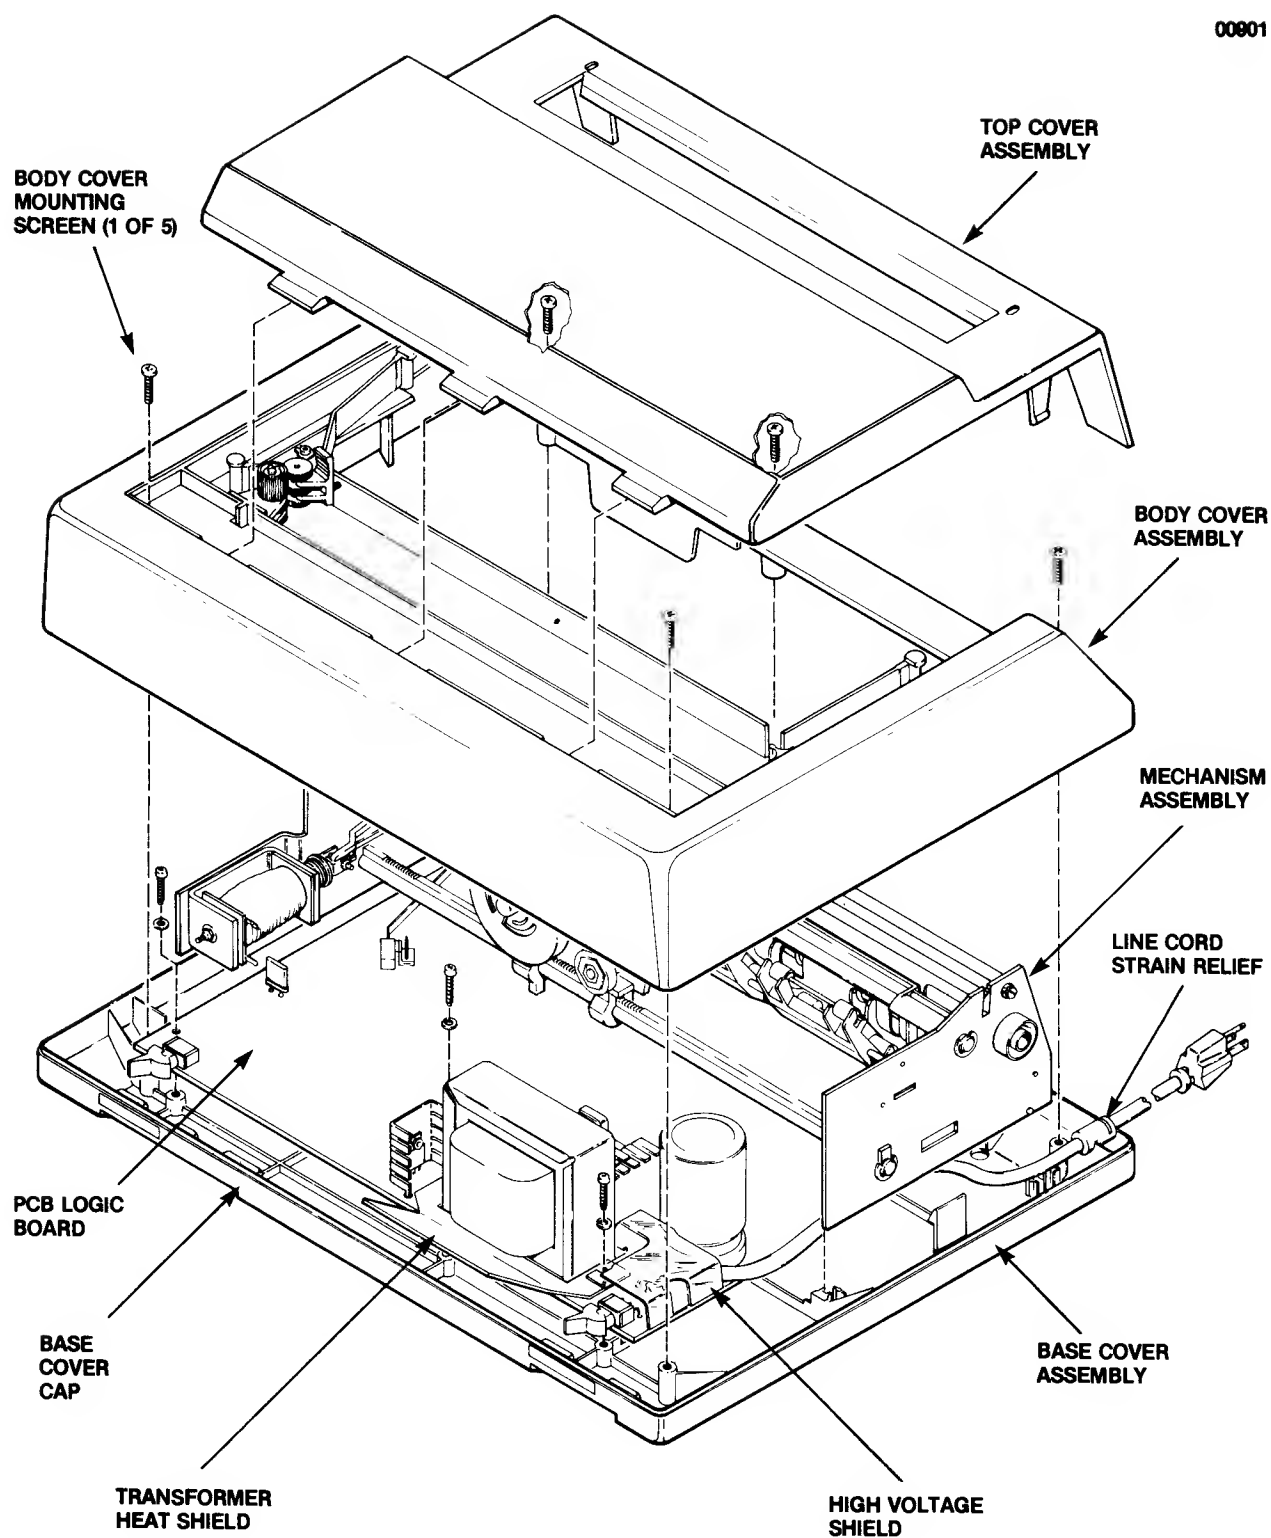

Figure 6-5. BASE AND BODY COVER ASSEMBLY REPLACEMENT
6.6 BASE COVER ASSEMBLY (See Figure 6-5)
6.7 BODY COVER ASSEMBLY (See Figure 6-5)